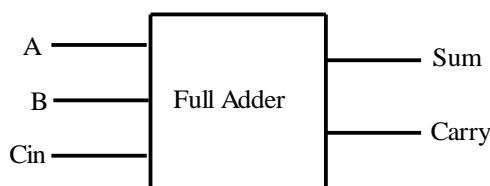

Figure 5.2.16: Full Adder logic symbol.
**ii) Full Adder:** Full adder is a combinational circuit that performs the arithmetic sum of three input bits. It consists of three inputs and two outputs. Two of the inputs are variables, denoted by A and B, which represent the two significant bit to be added. The third input ‘Cin’ represents carry from the previous lower significant position. The logical symbol of full adder is shown in Figure 5.2.16 and the truth table is given in table 5.2.9.